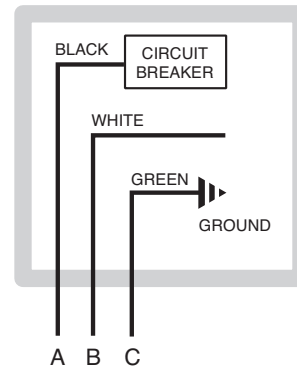

Fig. 18: Wiring Connections
**WARNING:** Using a multi-meter, check the following voltages at the terminal block inside the unit. Make sure proper polarity is followed and house ground is proven. (See Fig. 18.)